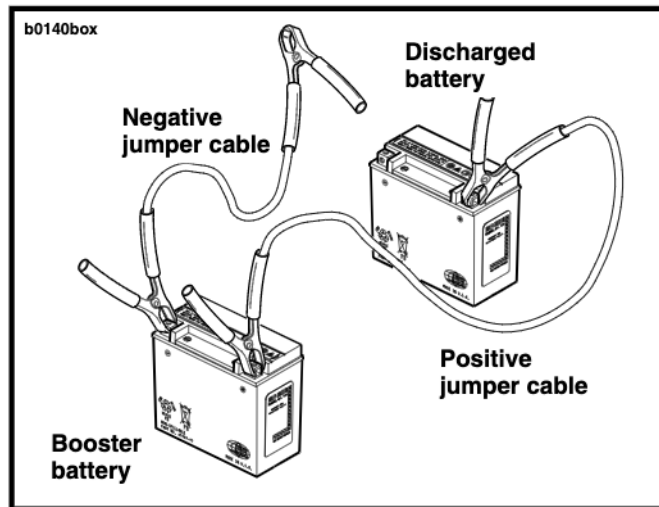

Figure 47. Jump Start Cable Connections
2. See Figure 47. Connect one end of a jumper cable to the DISCHARGED battery positive (+) terminal.
1. See Figure 47. Remove screw from rear seat bracket.